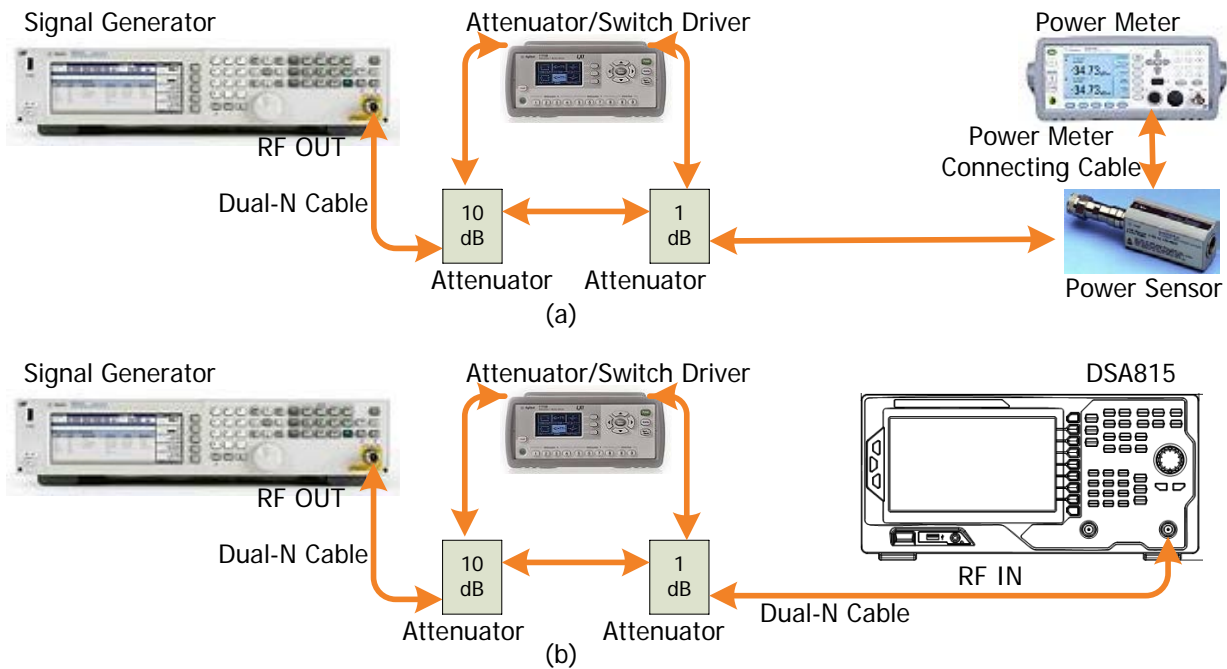

Figure 2-8 Input Attenuation Error Test Connection Diagram
2. Connect the output terminal of the signal generator with the program-controlled attenuator; then, connect the program-controlled attenuator with the power sensor, as shown in Figure 2-8 (a).
6. Disconnect the program-controlled attenuator and the power sensor and connect the output of the program-controlled attenuator to the RF input terminal of the spectrum analyzer, as shown in Figure 2-8 (b).